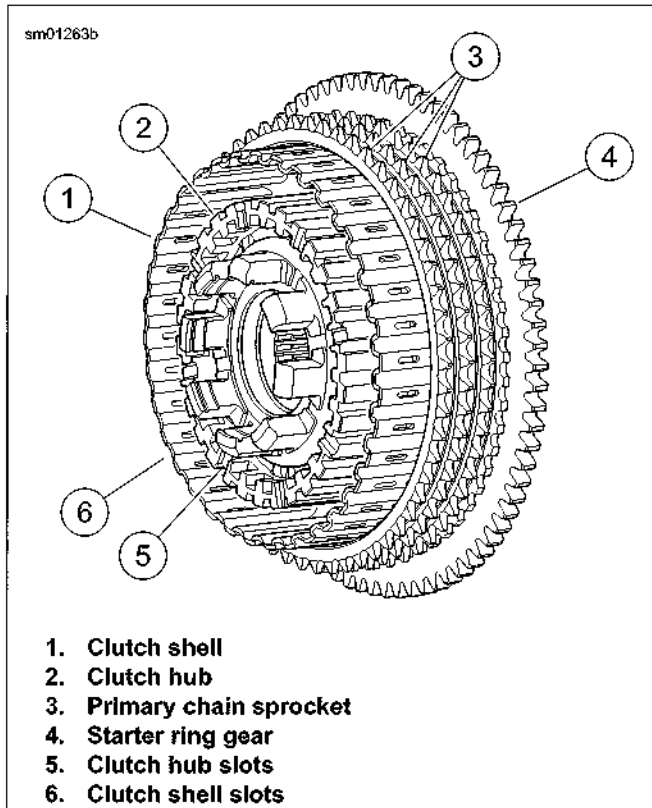

Figure 5-13. Checking Clutch Hub and Clutch Shell
- h. See Figure 5-13. Check primary chain sprocket (3) and starter ring gear (4) on the clutch shell (1). If either sprocket or ring gear is badly worn or damaged, replace clutch shell.
- i. Check slots (5, 6) that mate with clutch plates on both clutch shell and clutch hub (2). If slots are worn or damaged, replace shell and/or hub.